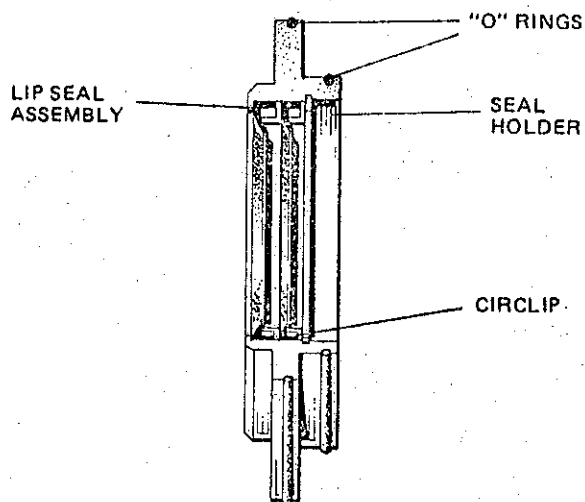

Figure 18. Conveyor front Seal Holder
- (iii) Install the two 'O' rings, the front conveyor seals and stabilizing members into the conveyor front seal holder as in Figure 18. Install the seal holder in the conveyor, taking care not to damage the 'O' rings. Bolt the seal holder to the spline bushing.